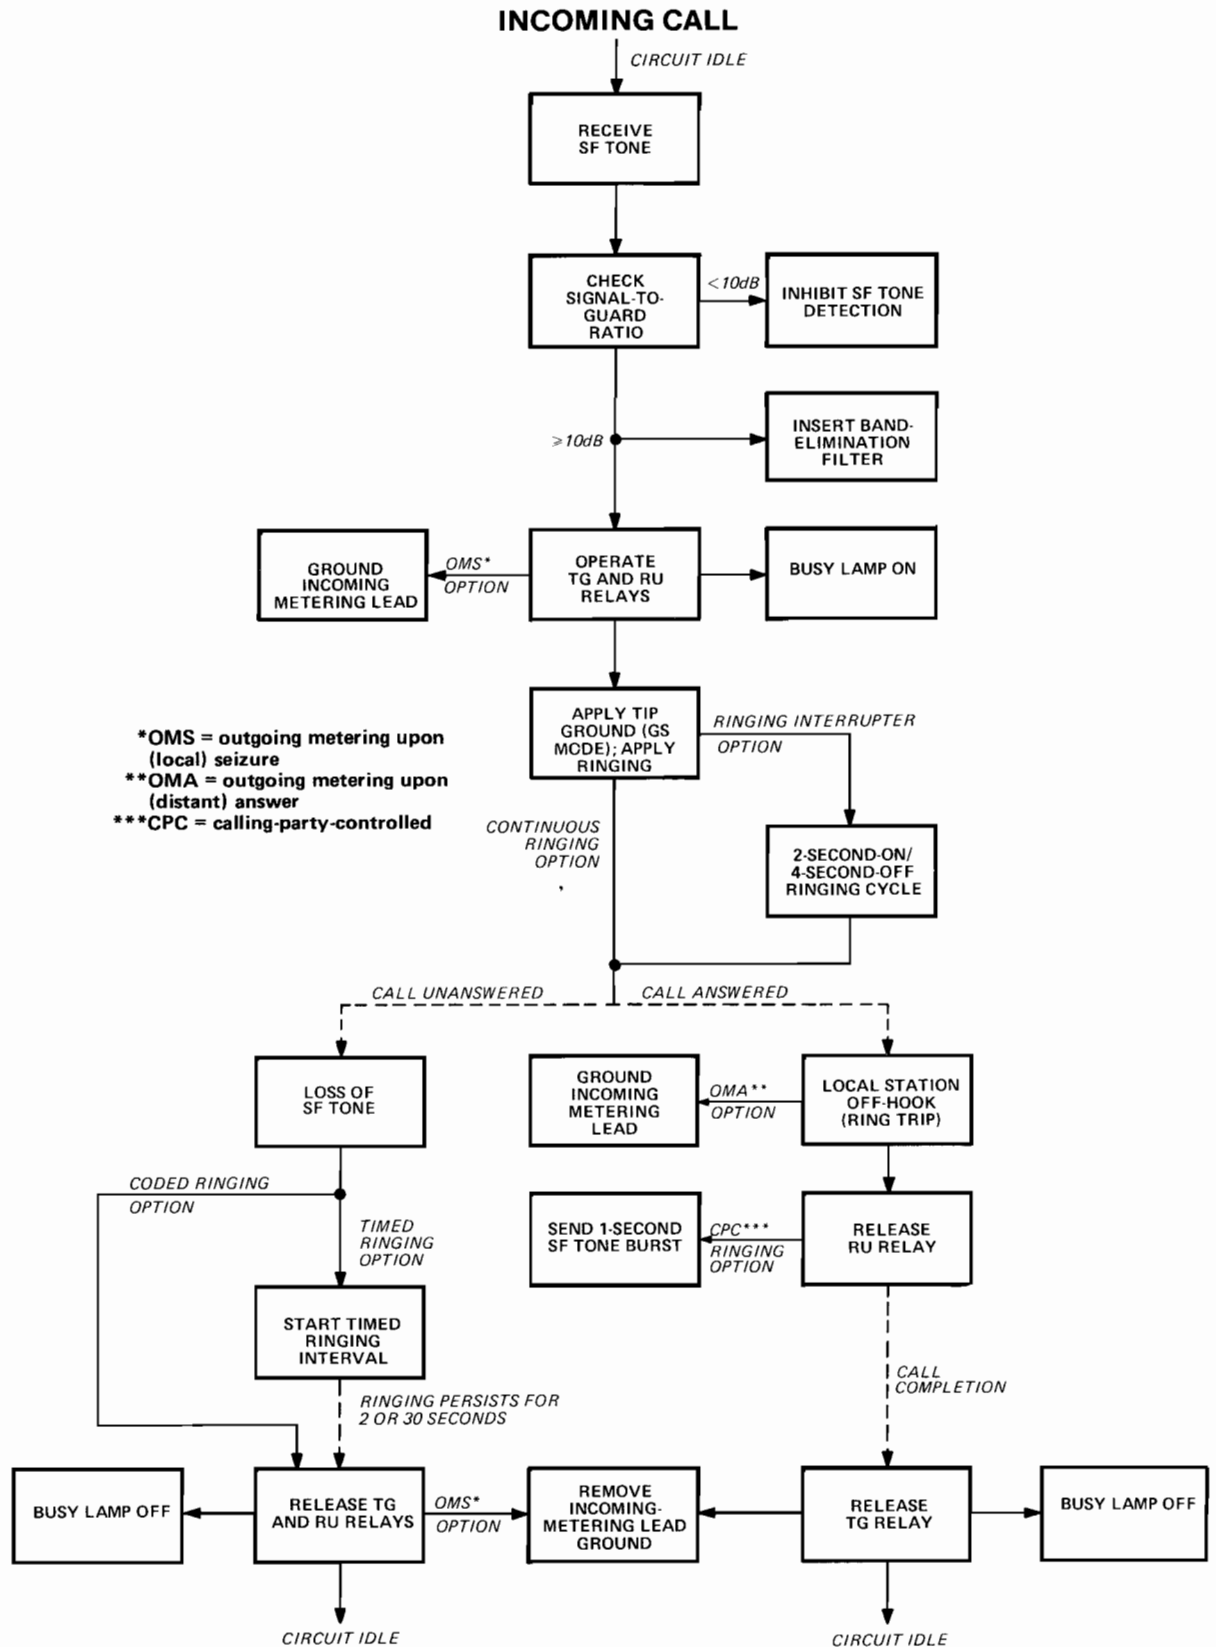

figure 4. Function sequence chart, incoming call
4.01 To provide the clearest possible understanding of the operation of the 6945 4Wire Ringdown SF Signaling Set module, sequence charts (figures 4 and 5) that illustrate sequential operation of the module on incoming and outgoing calls are presented in lieu of a more conventional circuit description. Horizontal paths identify events occurring simultaneously, and vertical paths denote sequential events. Dotted lines indicate elapsed time. These charts may be used to determine whether a module is performing normally by observing the module's response and comparing it to that shown in the chart. Reference to the 6945 functional block diagram (section 5 of this Practice) may aid in understanding the sequence charts.